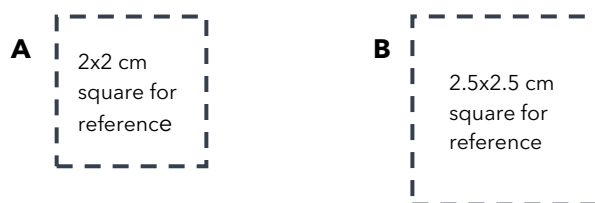

Figure 6. Reference size for **A**) Standard and **B**) Large
8. Use scissors to cut a piece of Parafilm (**Standard: 2x2 cm**; **Large: 2.5x2.5 cm**) (Figure 6). Use tweezers to peel off the Parafilm backing and place the side previously protected by the backing onto the solution. Avoid introducing air bubbles. Seal the petri dish with Parafilm.